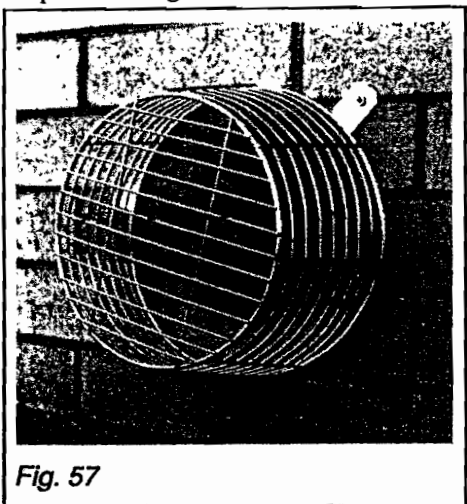

Fig. 57
6.13.7 If flue terminal guard is required, position the guard symmetrically over flue terminal and mark fixing hole centres on to wall. Drill and plug fixing holes and secure terminal guard in place using suitable fixings for the type of wall in question. Fig.57.